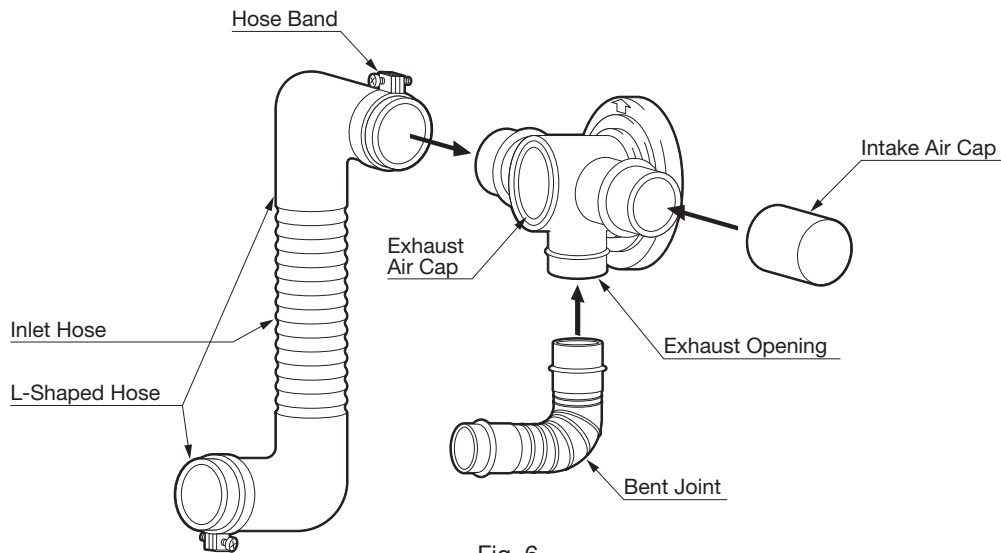

Fig. 6
4. Insert the bent joint to the exhaust opening of the flue pipe. Cut the inlet hose for desired length if necessary. Attach the L-shaped hose to each end of the inlet hose and attach the L-shaped hose to the intake opening of the flue pipe. Secure the L-shaped hose to the intake opening with the hose band. Plug the unused exhaust and intake opening with the caps provided with the heater. Make sure the caps fit tightly onto the opening (See Fig. 6).